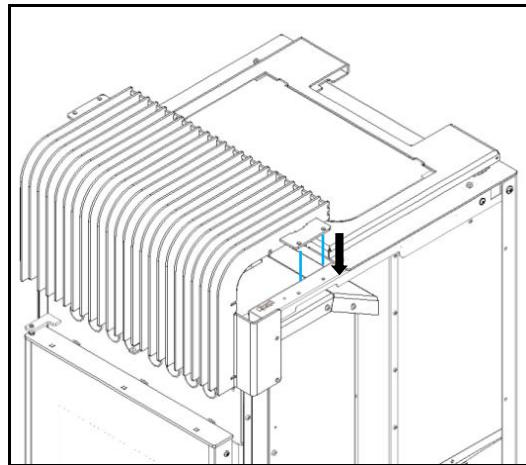

Figure 100 – Fitting the front grille
c) In the upper part of the grate, fasten with two screws **C** (DIN 7981 4,2x9,5) directly to the cover previously placed, then fix with two screws **A** (DIN 912 M5x12) and use nuts **B** (Nuts M5 DIN 6923), finally , with two screws **C** (DIN 7981 4,2x9,5) attached to the lower part directly on the machine, as shown in Figure 100.